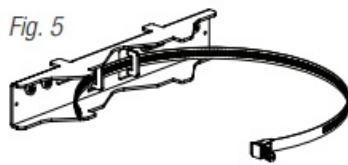

Fig. 5
- **Pole Mount:** Refer to Fig. 5 – 9, pg. 8.
- Mount the unit in the desired location. Mark and predrill holes in the wall to line up with the top two keyholes in the enclosure. Install two (2) upper fasteners and screws in the wall with the screw heads protruding.
1. Thread one (1) wormgear quick-release strap through the slots on the back of a mounting bracket (Fig. 5, pg. 8).
4. Thread the second wormgear quick-release strap through the slots on the back of the bottom mounting bracket (Fig. 5, pg. 8).
6. Tighten the straps of the bottom bracket down by sliding the open end of the strap through the locking mechanism on the strap, then tighten the screw with a flathead screwdriver or 5/16" hex socket driver (Fig. 5, pg. 8).